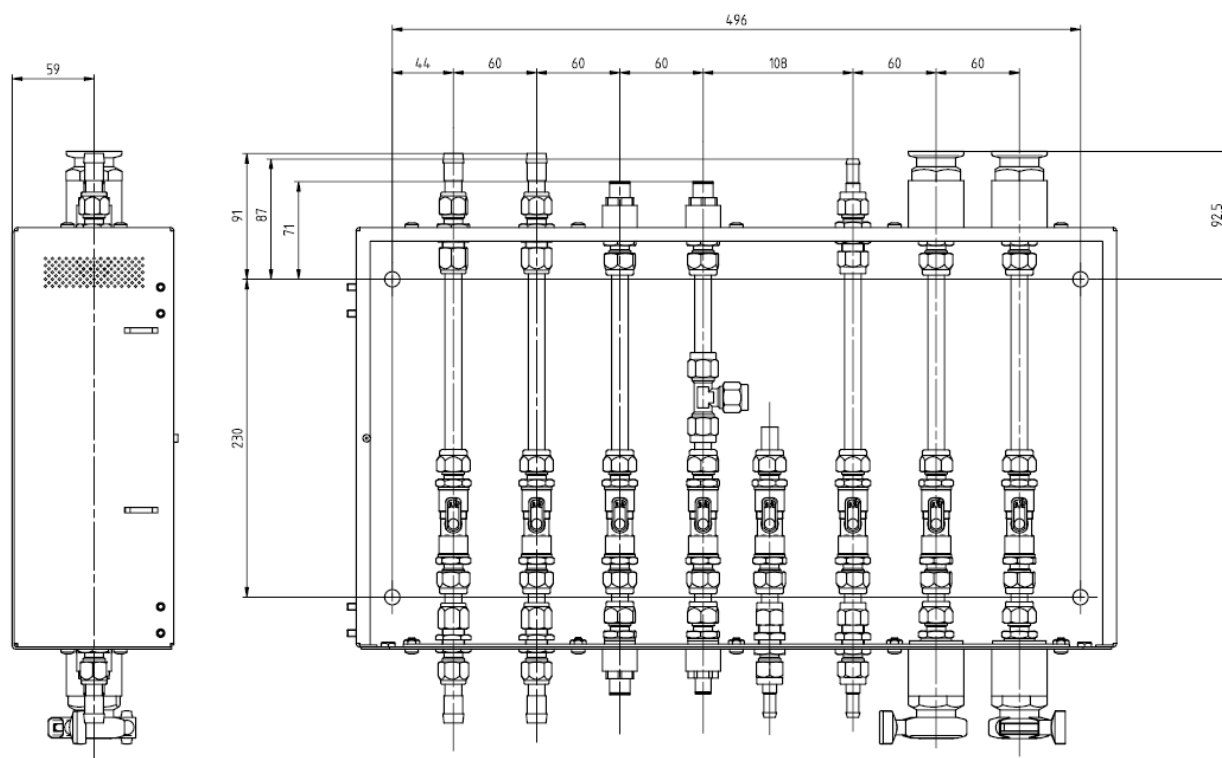
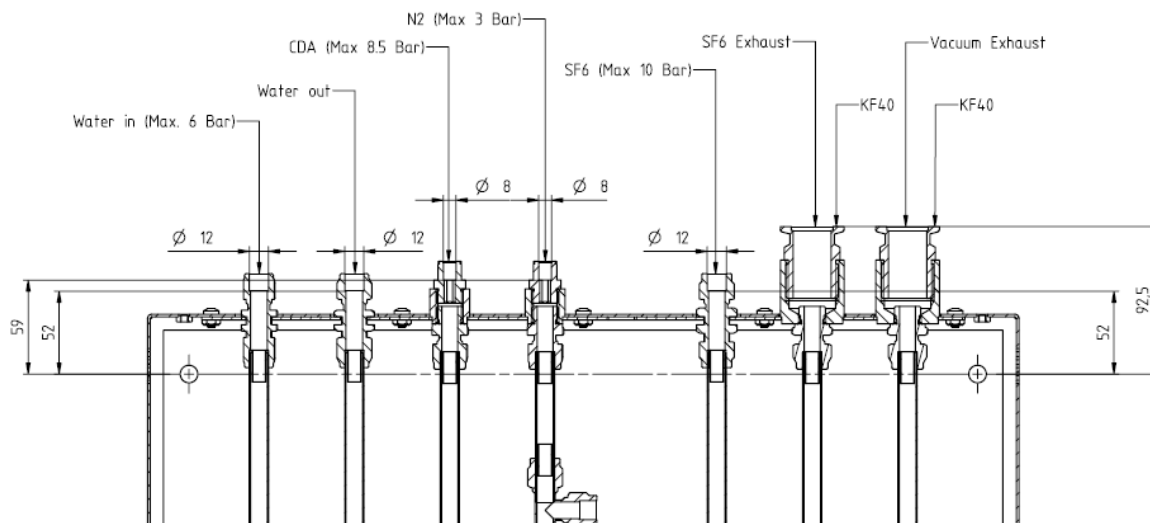

Figure 8: Connection Box dimensions
Figure 9: Customer's side connections on the Facility Connection Box
Note If the Connection Box is not used, prepare facilities according to Figure 9. During the Installation FSE will connect the system directly instead of using the Connection Box.
2. Drill 4 holes for mounting of the Connection Box on the wall as in Figure 8.r
3. Prepare the facilities to be connected to the Connection Box as indicated in Figure 8 and Figure 9.